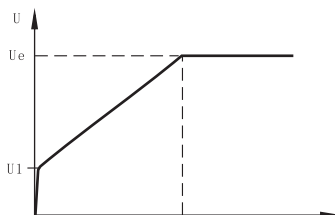

Figure 12-2-1
- The soft starter will be under voltage starting mode when code F9 is set to 1 (voltage). Figure 12-2-1 shows the output voltage wave of the output ramp starting.  $U_1$  is the starting voltage value at start, when the motor starts, if the current of the motor is within the range of the rated value 400%, the output voltage of the soft starter will increase to  $U_1$  rapidly, then the starting parameter set according to the output voltage will rise gradually, and the motor will accelerate smoothly with the rising of the voltage and reach the rated rotation speed when the voltage reaches the rated voltage  $U_e$ , then the bypass contactor will close and the whole starting process completes.